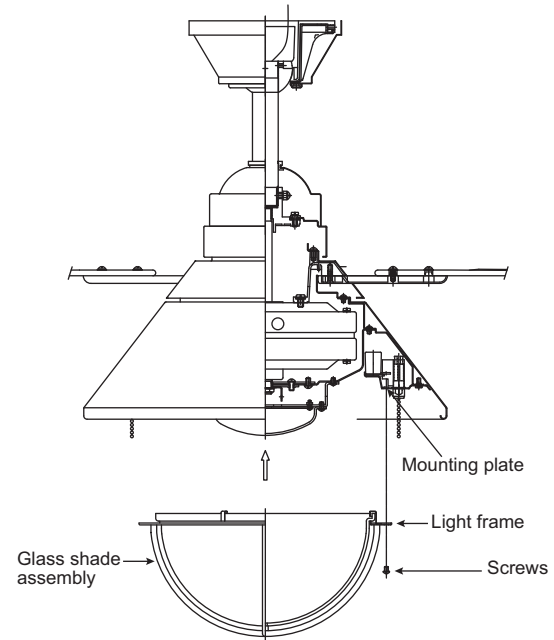

Fig. 16
Step 1. Raise glass shade assembly with light frame up against mounting plate on the bottom of fan housing and secure with the four screws provided. (Fig. 16)